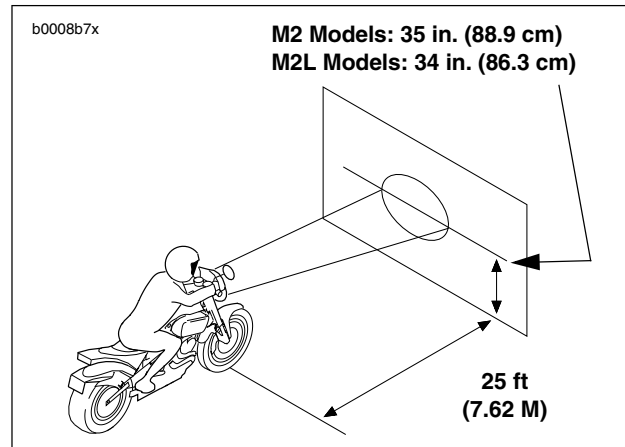

Figure 1-56. Checking Headlamp Alignment
3. See Figure 1-56. Point front of motorcycle toward a screen or wall which is 25 ft (7.62 M) away from front tire contact patch on floor (i.e., directly below front axle).